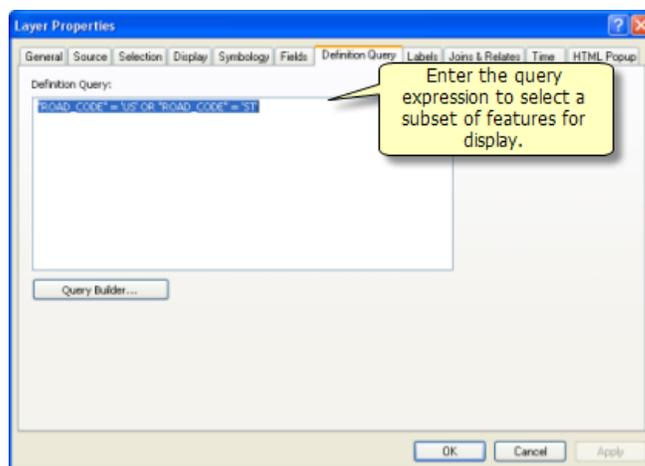

Figure 147: ArcMap Create a Definition Query
3. Enter a query expression, as depicted in Figure 147.